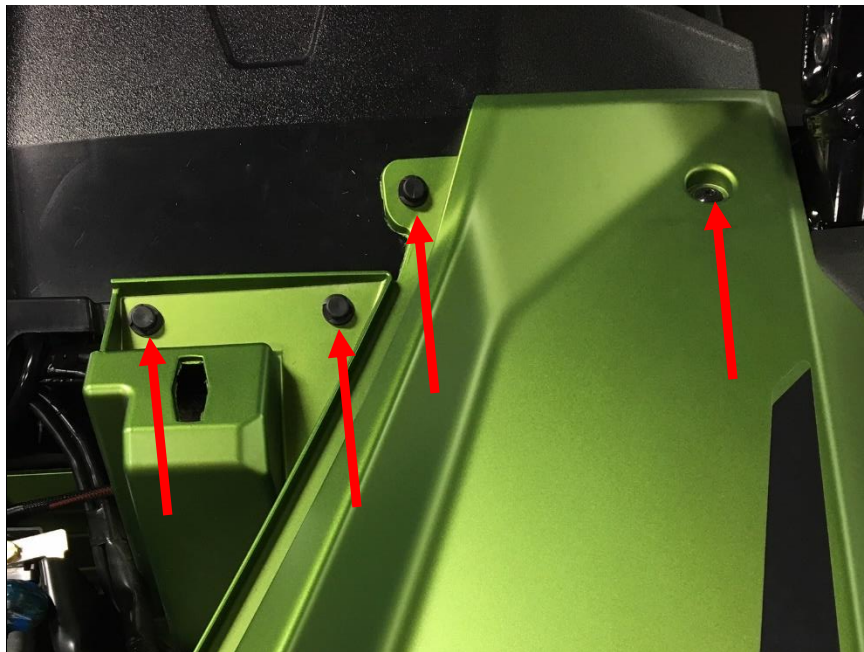

Figure 13: Remove the Torx screw and plastic rivets to run the chassis harness under the panel.
11. Remove the right Torx screw and the 3 plastic rivets to route the wiring under the plastic panel. The plastic rivets are released by first prying the center head up, then pulling the entire rivet out. See Figure 13.